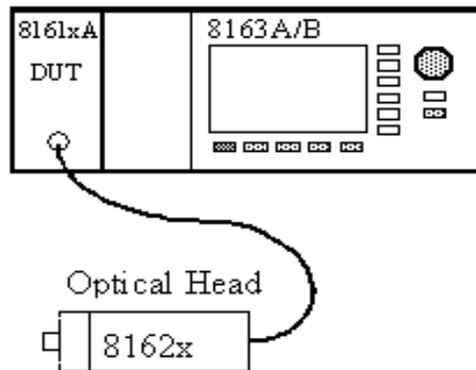

Figure 7 Functional Test Setup
- 1 Set up the equipment as shown in Figure 7